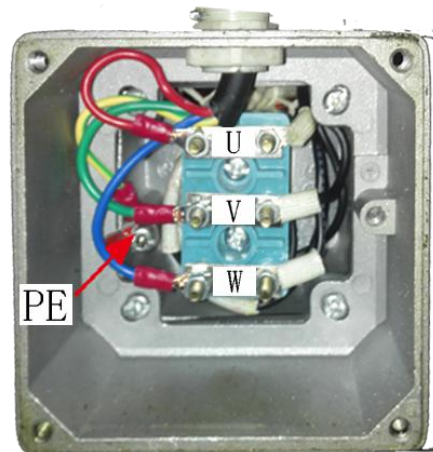

Fig. 10
- Connection of power line: Connect the 380V three-phase four-wire power line (cable of $3 \times 2.5\text{MM}^2 + 1 \times 1.5\text{MM}^2$) to the control cabinet interfaces U, V, W and input terminal, and connect the PE grounding wire to the labeled grounding bolt firstly and then to the labeled grounding bolts at the bottom of the two platforms (Fig. 10, 11).